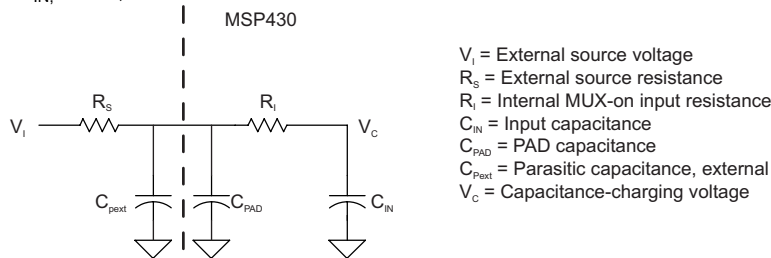

图 5-16. eCOMP Input Circuit
(1) For details on the eCOMP C_{IN}, model, see 图 5-16.
(1) For details on the eCOMP C_{IN} model, see 图 5-16.